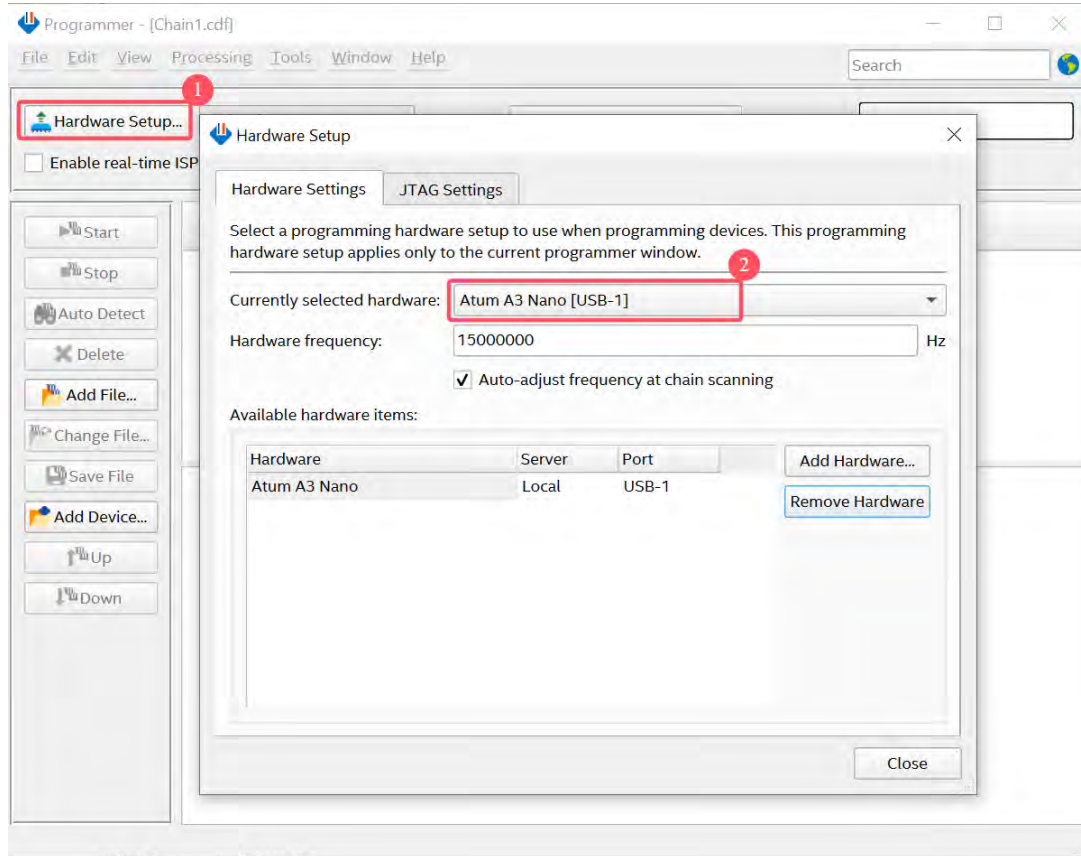

Figure 4-3 Hardware Setup
4. Select **Atum A3 Nano[USB-1]** under **Currently selected hardware**, and click **Close** as shown in **Figure 4-3**.